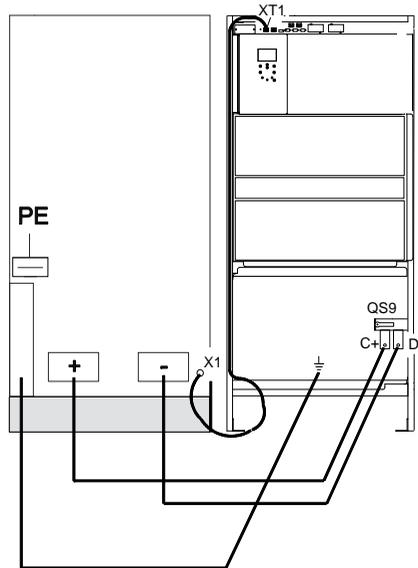

Figure 12 - External Battery Connections
- Make the ground connections (PE).
- Connect the cable for the temperature sensor between terminals XT1.1 and XT1.2 of the UPS terminal block and terminals X1.1 and X1.2 of the battery cabinet (Fig. 12).